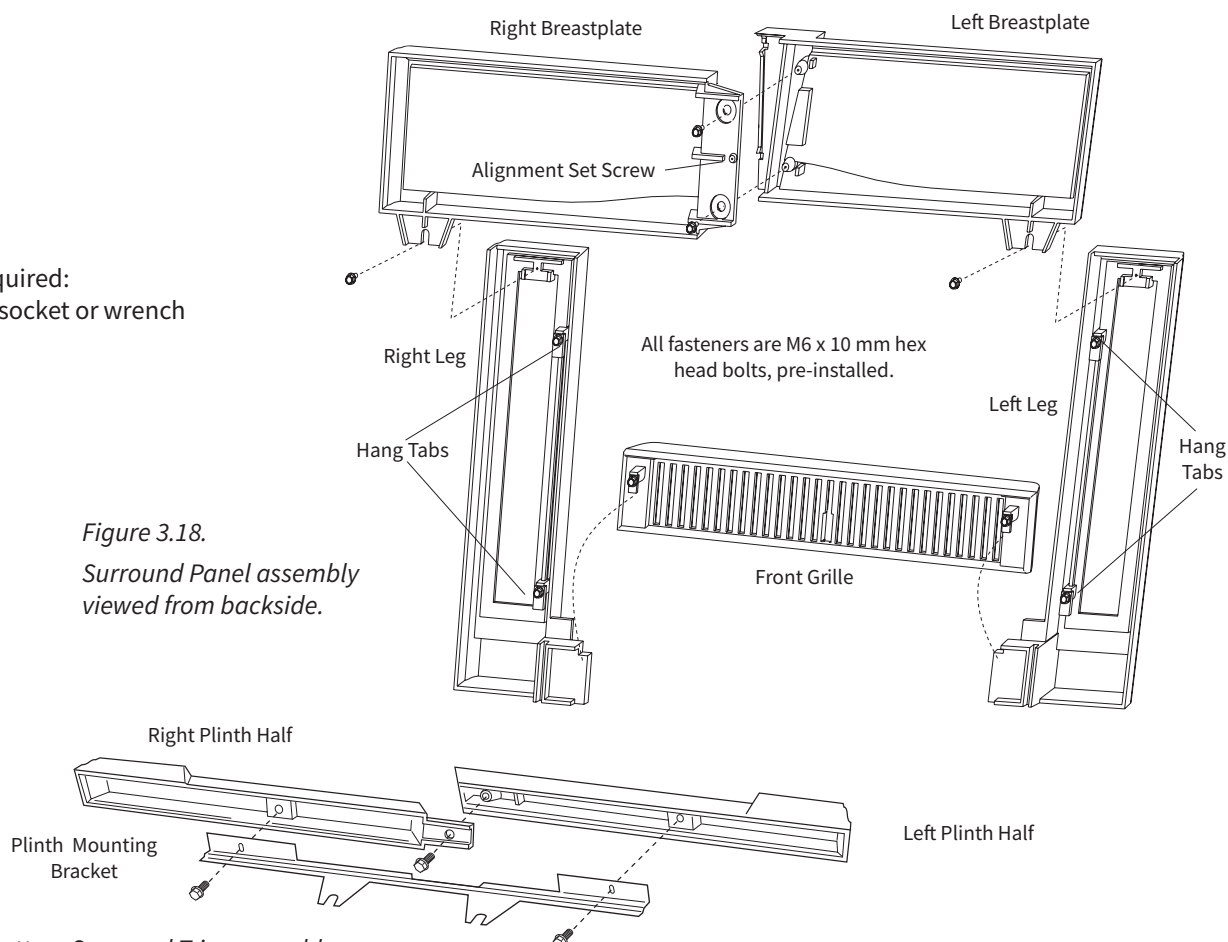

Figure 3.18.
1. Layout the parts. Place the castings face down on a protective surface such as carpeting, blankets or a sheet of cardboard. See fig. 3.18.
3. Attach the Leg plates. The Legs must be oriented with the Hang Tabs on the inside edges as shown in fig. 3.18 .